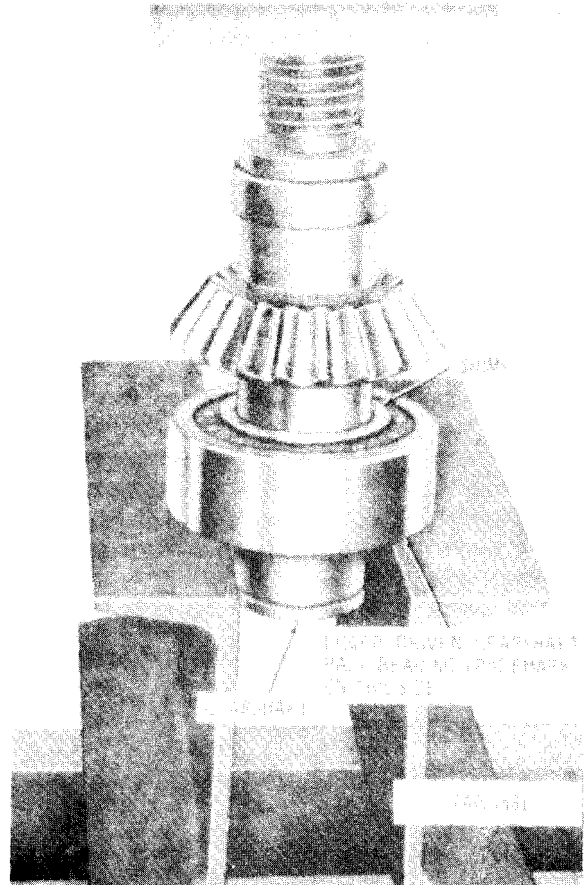

Figure 3-225. Pressing fan driven gearshaft into lower gearshaft ball bearing.
(2) Position shim (fig. 3-225) of predetermined thickness (fig. 3-224) on inner race of lower driven gearshaft ball bearing (fig. 3-225) and press fan driven gearshaft into ball bearing.